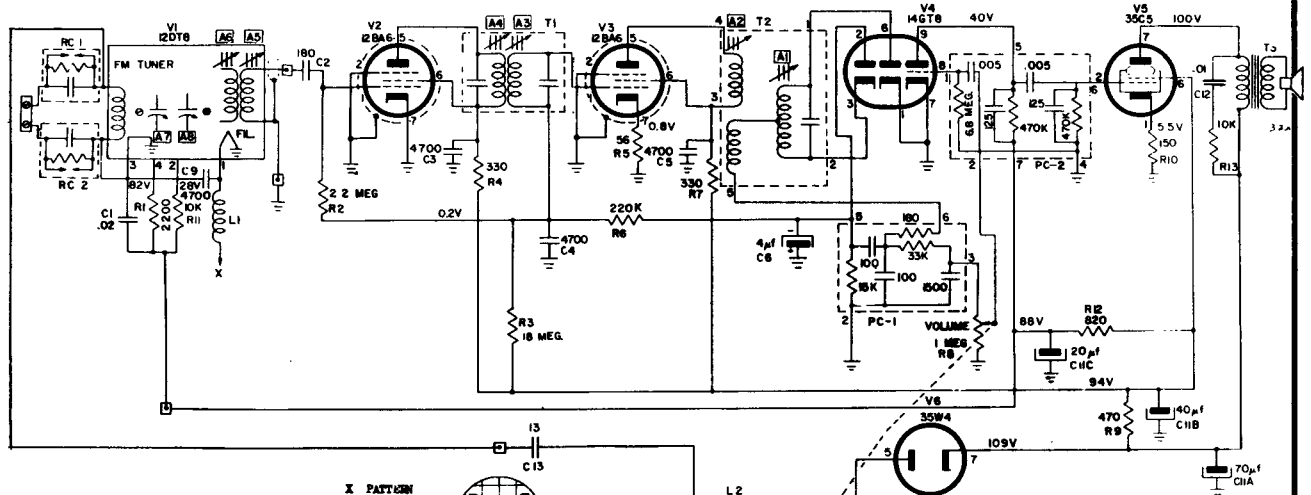

FIG. 1
VOLTAGES MEASURED TO B- WITH A VTVM ± 20%, NO SIGNAL. FIG. 1
8. Adjust ratio detector secondary slug No. A1 (outer peak) to center the cross-over point of the pattern. Pattern should look like Figure 1, with the same amount of curve on both ends, and the cross-over point in the center.